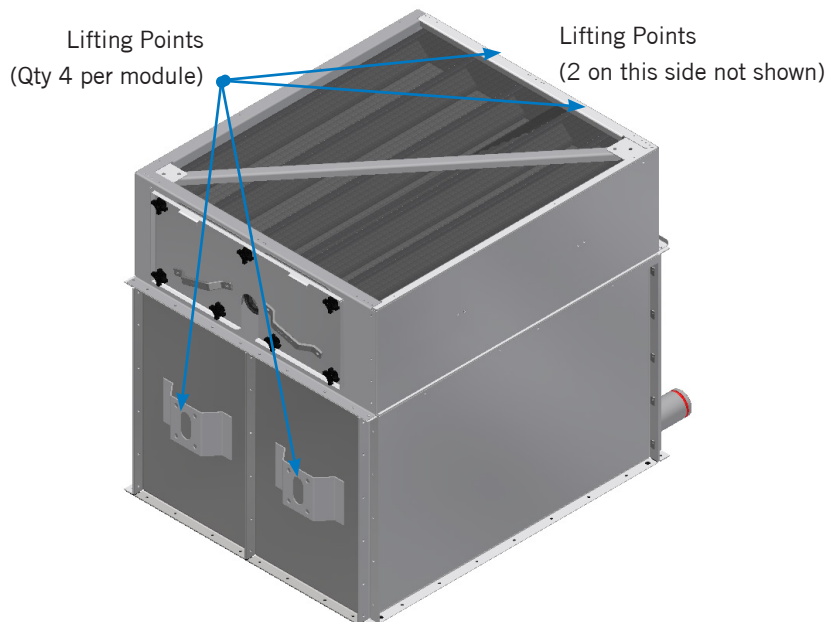

Figure 3b. hCore™ Heat Transfer Technology Section Lifting
2. Lift the hCore Heat Transfer Technology Section onto the lower fan section using the specified lifting locations in **Figure 3b**.